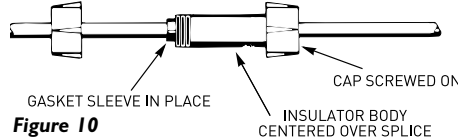

Figure 10
- Center insulator body over splice and slide neoprene sleeves into body as far as they will go. Screw caps onto insulator body (Figure 10) and tighten by hand for a strong, waterproof splice.